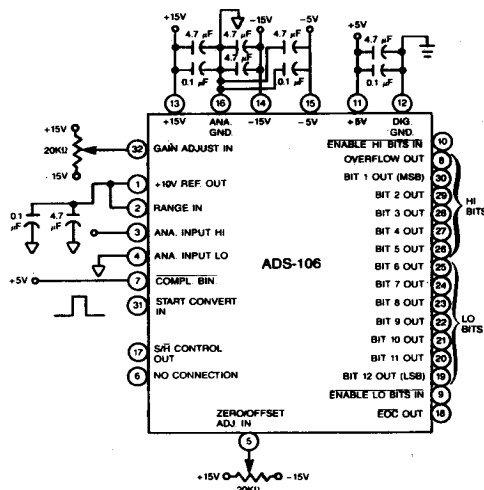

Figure 3. ADS-106 Typical External Connections, $\pm 10V$ dc
1. Connect the converter per Figure 3 and Table 2 for the appropriate full-scale input range (FSR). The data outputs should be connected to LED's to observe the resulting data values.